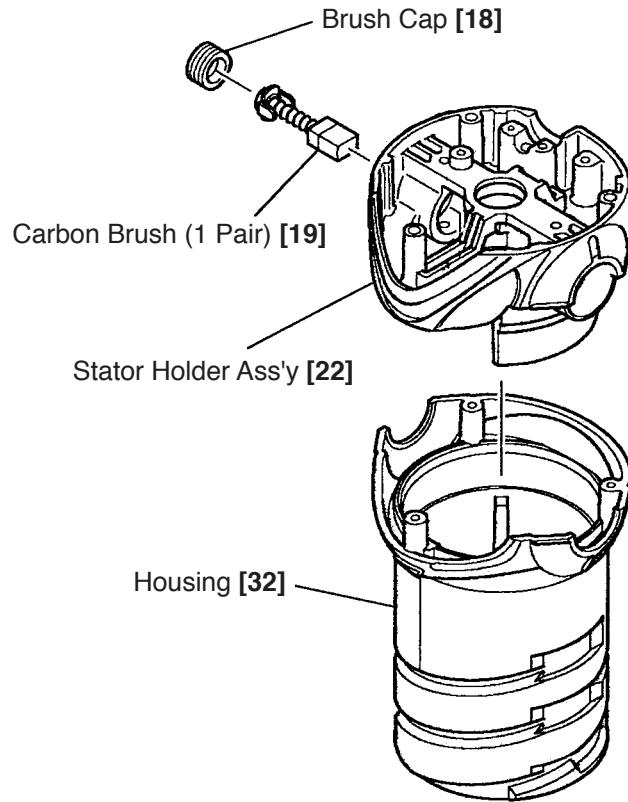

Fig. 6
- (3) Separating the Housing [32] and the Stator Holder Ass'y [22] (Fig. 6)